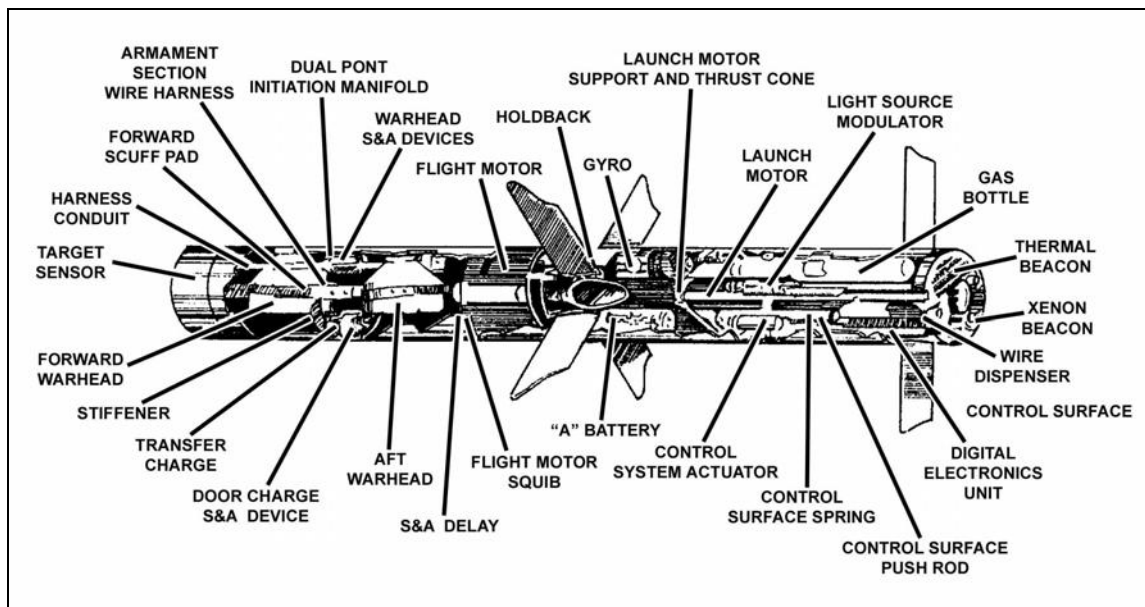

Figure 2-17. TOW 2B missile.
e. **TOW 2B (BGM-71F)**. The TOW 2B is a top-attack missile (Figure 2-17, page 2-22). The missile flies about 2.25 meters above the gunner's line of sight, but the gunner aims center mass of the target. The missile detects the target by magnetic signature and optical (laser) profile. The missile's sensors cannot distinguish friendly from enemy, or destroyed from not destroyed. To prevent premature detonation of the TOW 2B warheads, crews must ensure that their line of sight is clear of friendly and destroyed vehicles. The TOW 2B has two 5-inch warheads that, when detonated, explosively form two high-density tantalum penetrators.